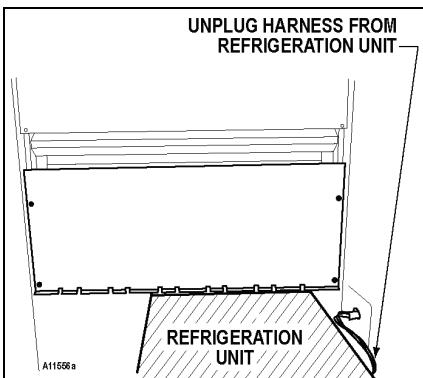
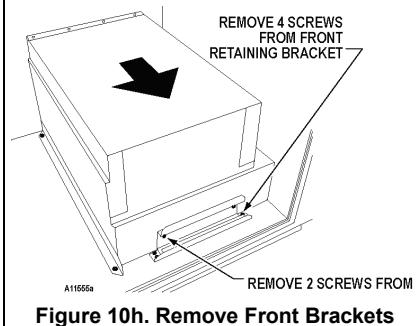

Figure 10g. Unplug Harness
Figure 10h. Remove Front Brackets
3. Locate the cabinet control harness and temperature sensor harness on the top right of the refrigeration unit. Unplug the connector to refrigeration unit, the temperature sensor 2, and the evaporator fan. See Figure 10g. Remove harness from any retaining clips mounted on the refrigeration unit.
4. Remove the two (2) screws on the front spacer bracket. Pull on the top edge of the front spacer bracket and swing it down to remove it.
5. Remove the front retaining bracket by removing the four (4) screws. See Figure 10h.